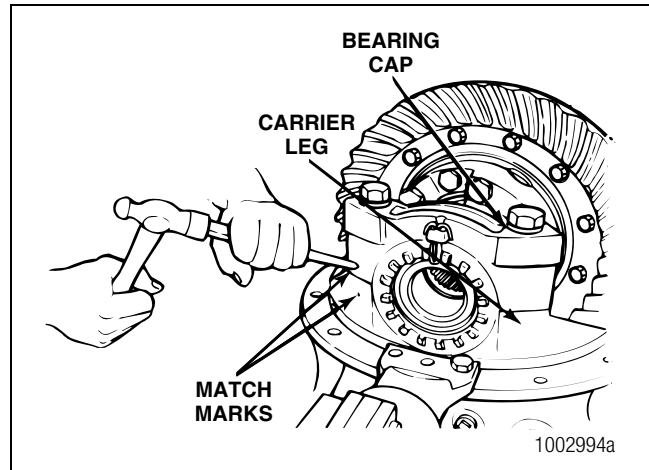

Figure 3.10
5. Use a center punch and hammer to mark one carrier leg and bearing cap to correctly match the parts during carrier assembly. Figure 3.10.